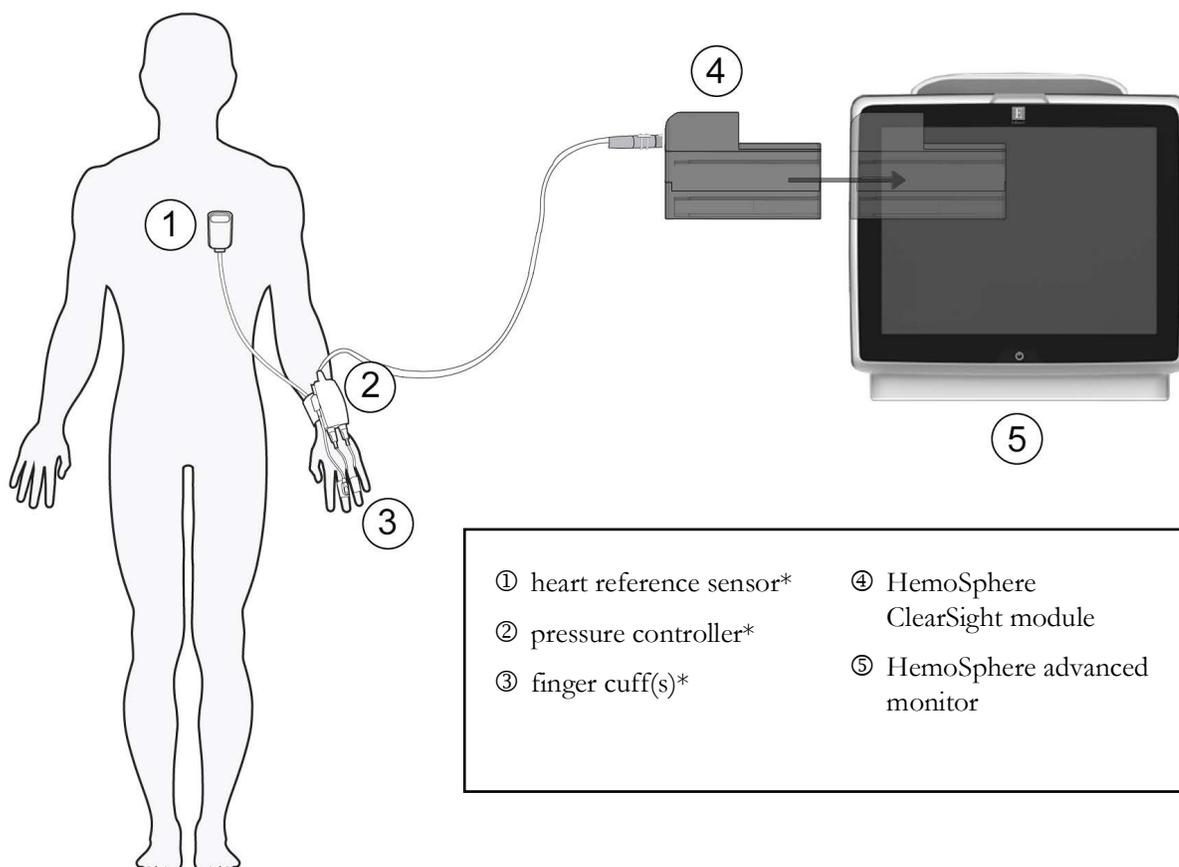

Figure 11-1 HemoSphere non-invasive system connection overview
The HemoSphere noninvasive system is composed of the HemoSphere advanced monitor with ClearSight module and connected pressure controller, heart reference sensor, and compatible Edwards finger cuff(s). See system connections in figure 11-1 on page 199. Accurate measurement of the patient's blood pressure and key hemodynamic parameters is based on the Volume Clamp method, Physiocal method and ClearSight algorithm.
The HemoSphere ClearSight module is compatible with all approved Edwards finger cuffs. See figure 11-1 for an overview of the HemoSphere non-invasive system connections.
NOTE Components indicated by * in figure 11-1 legend are APPLIED PARTS as defined in IEC 60601-1 that in normal use necessarily come into physical contact with the patient for the HemoSphere non-invasive system to perform its function.
- 3 Attach the pressure controller cable to the HemoSphere ClearSight module. (figure 11-1)